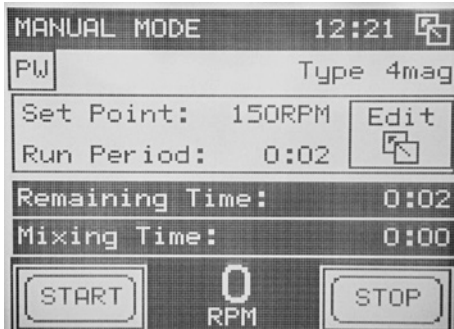

Figure 31 Manual Mode Parameters screen
To use the manual mode press **Manual Mode** on the Main Menu. The Manual Mode screen will open. The status bar will display "MANUAL MODE" (See Fig. 31 and 32).
- Return to the Manual Mode screen. All parameters are indicated in screen areas with white backgrounds (Fig. 31 and 32).
To a manual job press and hold the **Start** button on the Manual Mode screen. The mixer will start and the current status will show in areas with dark backgrounds: the remaining time (for timed jobs) or the "Permanent Run" (for continuous runs) and net mixing time (Fig. 31 and 32). The window status bar will have a blinking "Run in Progress".